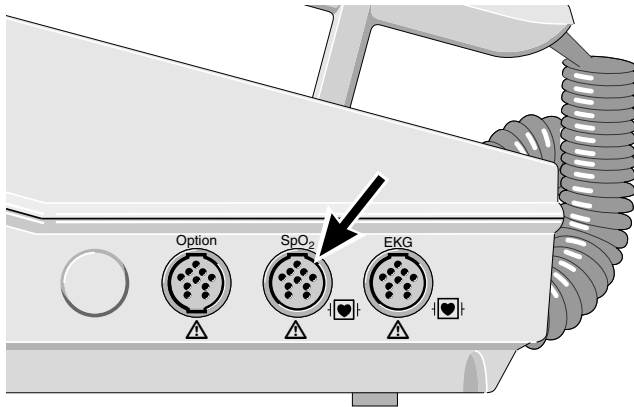

Figure 9-2. SpO₂ sensor connection
- * Connect the sensor to CardioServ (SpO₂ connection, Figure 9-2).